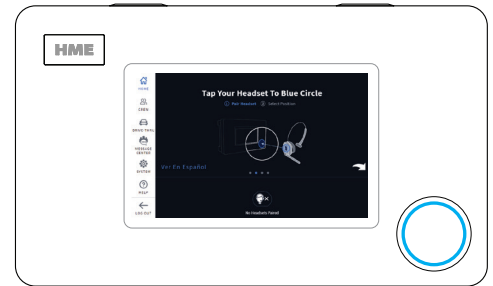

Fig. 1.1
- **Base Station:** This is the control center for your entire system. All peripheral devices and connected components are controlled from here. Headsets are paired here for use, and your system is also configured here. The Base Station also provides feedback on the status of system components such as headsets, speakers, and batteries. (Fig. 1.1.)